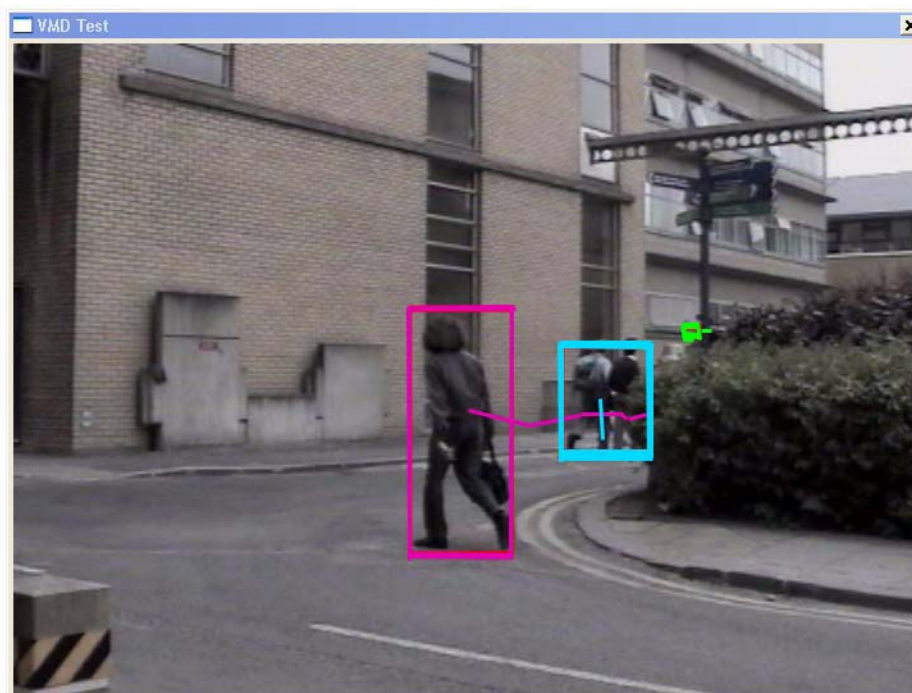

Figure 12-4: Testing an Object-Tracking ROI
- 8. Click the **Start Test** button to test the performance of the ROI. Figure 12-4 on page 119 shows the test of an Object-Tracking ROI. In test mode, the server outlines, with a coloured border, each object moving in the camera view that matches the specified direction, size and speed. The server uses a different colour for each new object. It also marks a trail showing the path taken by the object in the trigger direction.